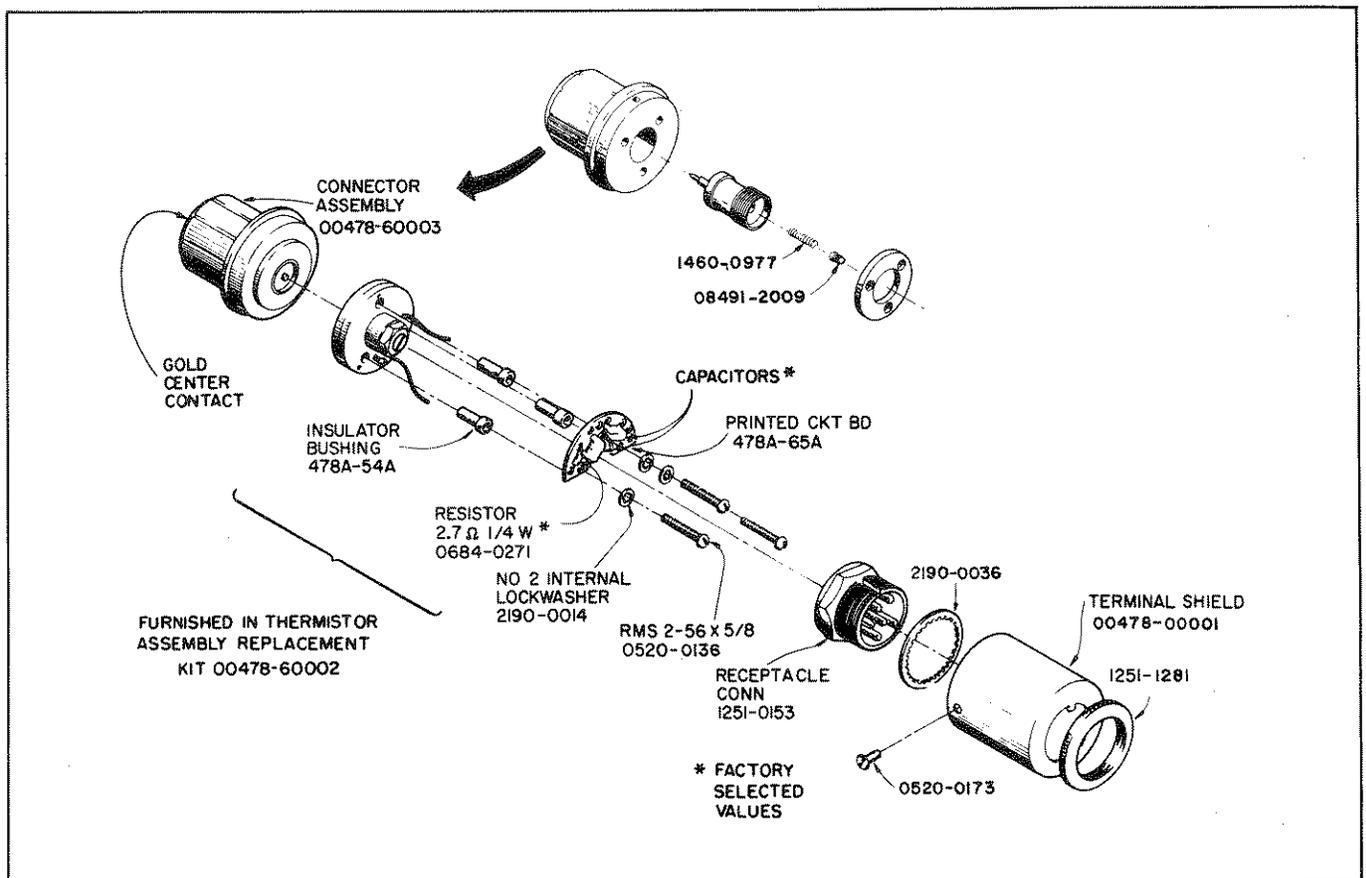

Figure 9. Model 478A Thermistor Mount Assembly
- a. Remove three 2-56 x 3/16 screws holding terminal shield (Figure 9). Move terminal shield aside.